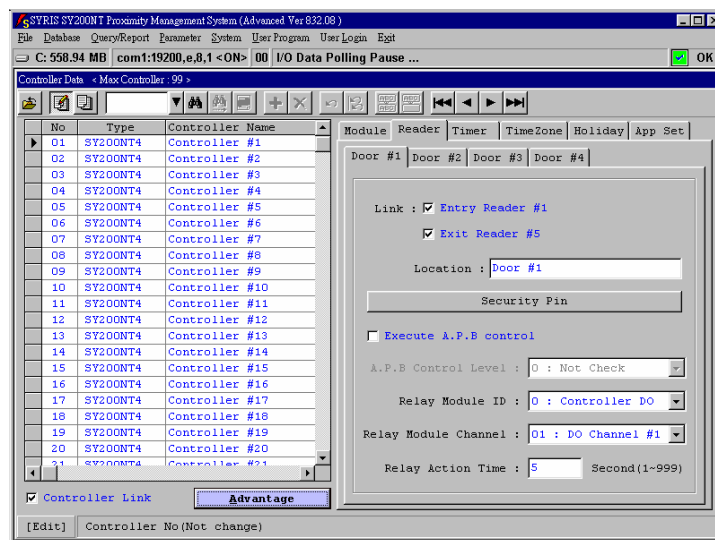

Fig.3-5 Module Model Select
1. Click "Reader", sub-menu appears, Fig.3-5.